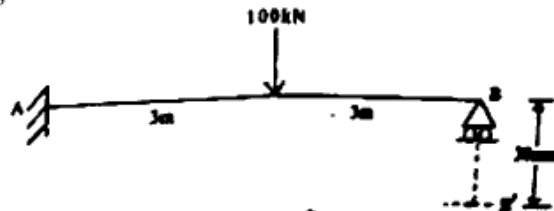

Figure 4 (चित्र 4)
5. Determine the prop reaction and the deflection at mid-span of a propped cantilever beam shown in figure 4. The prop sinks by 30 mm. Take  $EI = 15,000 \text{ kNm}^2$ . 14